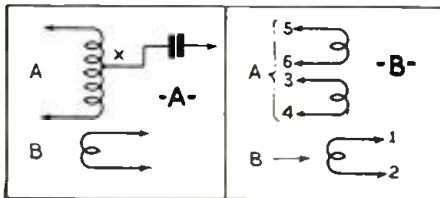

Fig. Q.341, above. Theremin coils.
(A.) The RCA 80 coils may be used after a slight change is made, according to an answer in this connection recently received from Mr. Deeter, the author. Referring to the wiring diagram of the RCA 80, we find the oscillator coil drawn as in Fig. Q.341A. Break the grid coil winding at X, unwind an eighth of an inch in each direction and run leads to terminals, as 3 and 6 in Fig. Q.341B. The plate coil, B in Fig. Q.341 A, will be used for the pick-up and mixing coil in the new arrangement. Starting from the end farthest from the grid and plate coils (A), unwind wire from coil B until only 10 turns remain, and then take off leads. The section of A that is next to coil B will constitute the plate coil of the oscillator circuit.